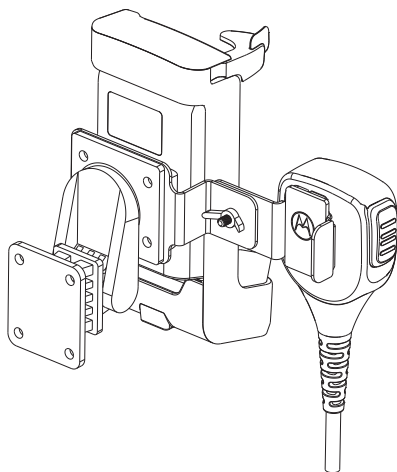

Figure 3. Clipping the RSM onto the RSM Bracket.
8. RSM Bracket allows user to clip on the RSM as shown in Figure 3.